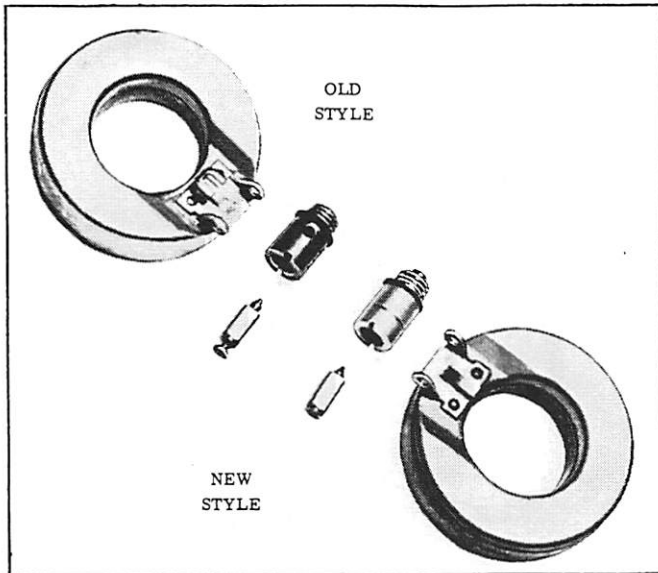

Figure 10. New Style Inlet Needle and Seat, Mark 20H
A new carburetor inlet needle and seat (1398-1174) is used as a replacement on the Mark 20H carburetor. It gives more satisfactory operation at high speed, thus preventing the foaming condition previously experienced on some motors. (Figure 10)
11) or replacement with a new style float (1398-1172). (Figure 10)